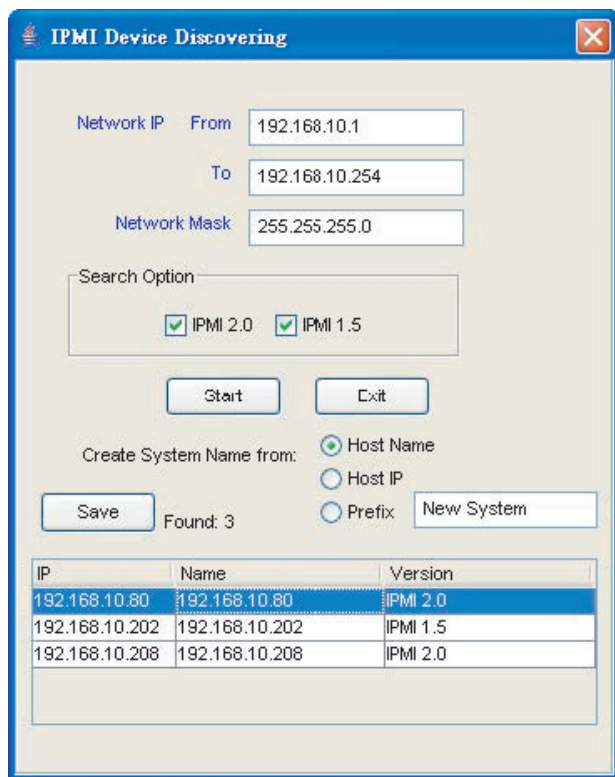

Figure 2-6
Step 4. As shown in Figure 2-6, IPMI View includes a function that allows the user to collect candidate system information in order to build their information into a System List (see Figure 2-6). User may specify the IP range to search any possible system that has either IPMI 1.5 or IPMI 2.0 capability. After the candidate system information is collected, the user may add systems into a System List by IP addresses, or by a given Prefix name.